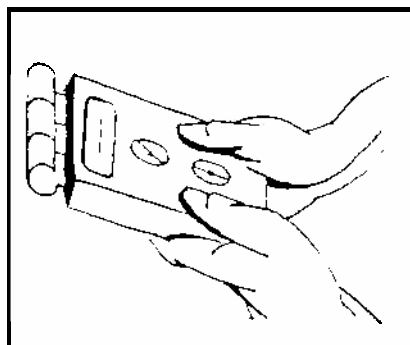

Fig. 1
In this case quickly switch the upper control to SETTINGS CHECK. The LCD will display the density and thickness set during the previous measurements (e.g. 0.56 and 42). Hold the device in the air (fig. 1), switch the upper control knob to MEASURE. The device will calibrate automatically (the display shows - - -). The end of calibration is indicated by the number 4.0 (the lower range limit) displayed on the LCD. The device is ready for measurements.
- ~ hold the instrument in the air (fig. 1) and set the upper control knob to MEASURE. The device will calibrate automatically (the display shows - - -). The end of calibration is indicated by the number 4.0 (the lower range limit) displayed on the LCD. The device is ready for measurements.